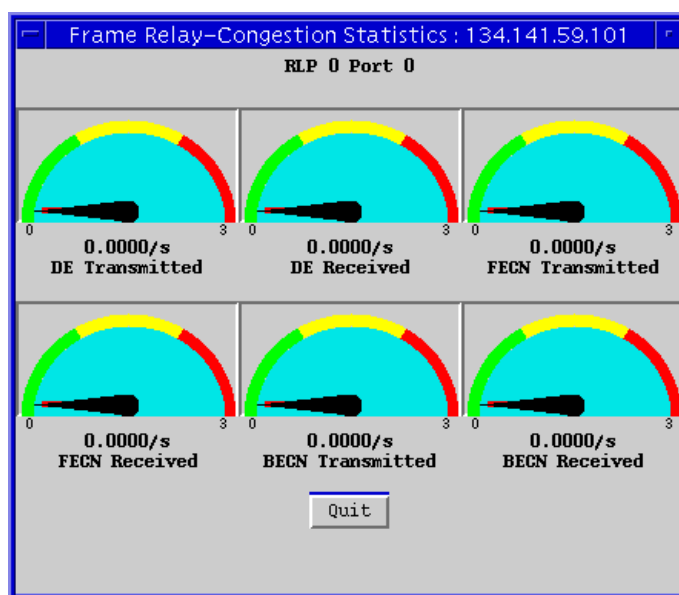

Figure 5-6. Frame Relay Congestion Stats
2. Drag down to **Frame Relay Congestion Stats**, and release. The Frame Relay Congestion Statistics window, Figure 5-6, will appear.